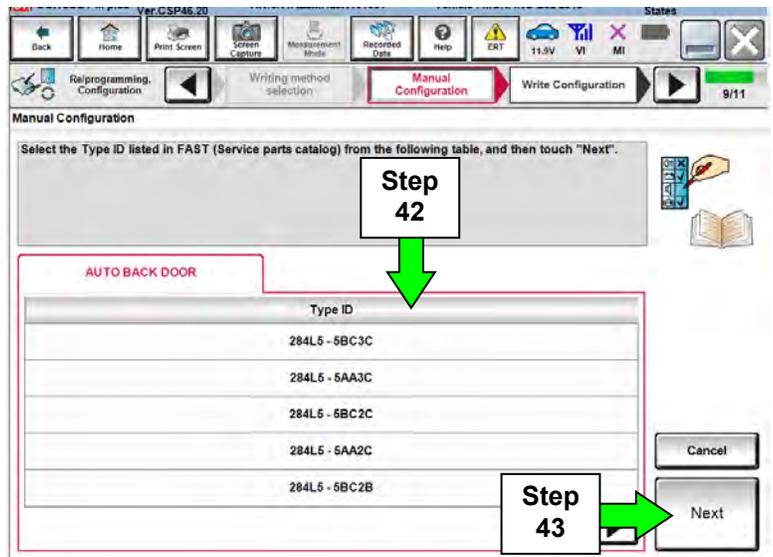

Figure 32
**NOTE:** If C-III plus automatically selects the Type ID, there will be no options shown under Type ID and Figure 32 will not display. Skip to step 44.